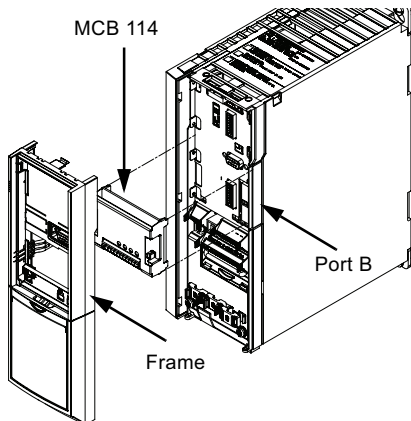

Fig. 3 Enclosure types A2, A3 and B3
2. Remove the control panel, the terminal cover and the frame from the CUE. See fig. 3.